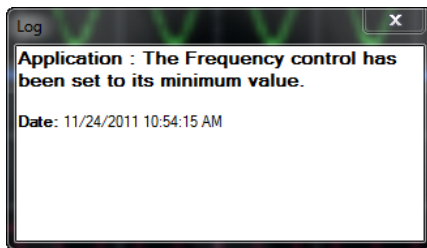

Figure 2-138 Log dialog
- 4 The Log dialog is displayed as shown in Figure 2-138.